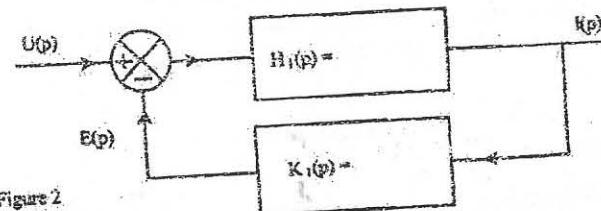

Figure 2
1.2.2. Deduce from the preceding question, the expressions of transmittances  $H_1(p)$  and  $K_1(p)$  of figure 2, by registering them in the corresponding blocks.